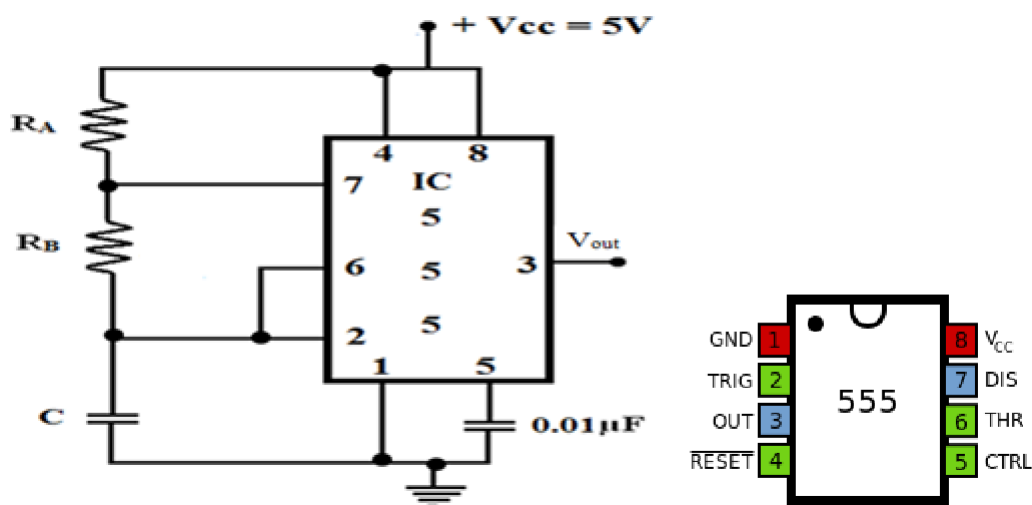

Fig. 10.1: Astable multivibrator with Square wave output (duty cycle  $\neq$  50%)
1. Connect the circuit as shown in the Fig. 10.1.